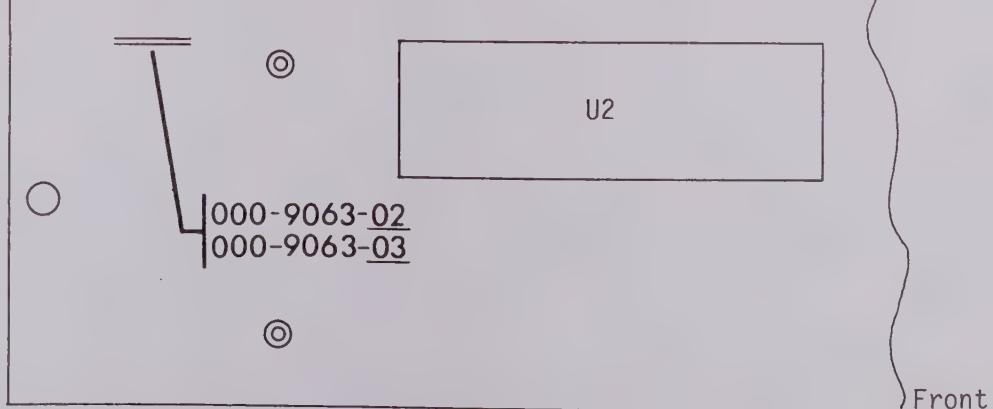

Figure 9 - Digitizer Board
1. Locate the Digitizer board part number as illustrated in Figure 9